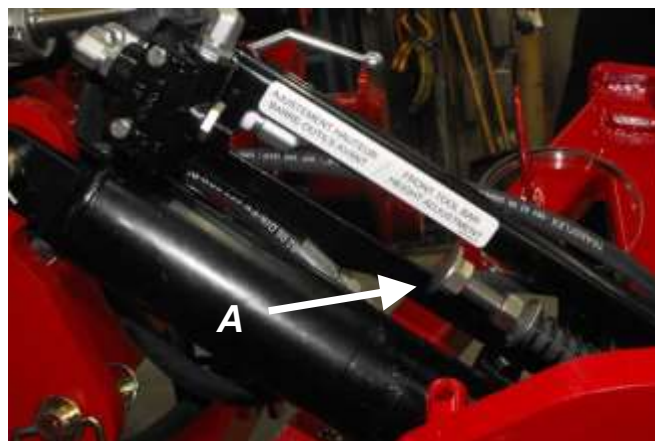

Figure 16
5. To adjust the depth, rotate the stopper on top of the cylinder [figure 16, **A**] which is on the left cylinder (**page 39, 1**).